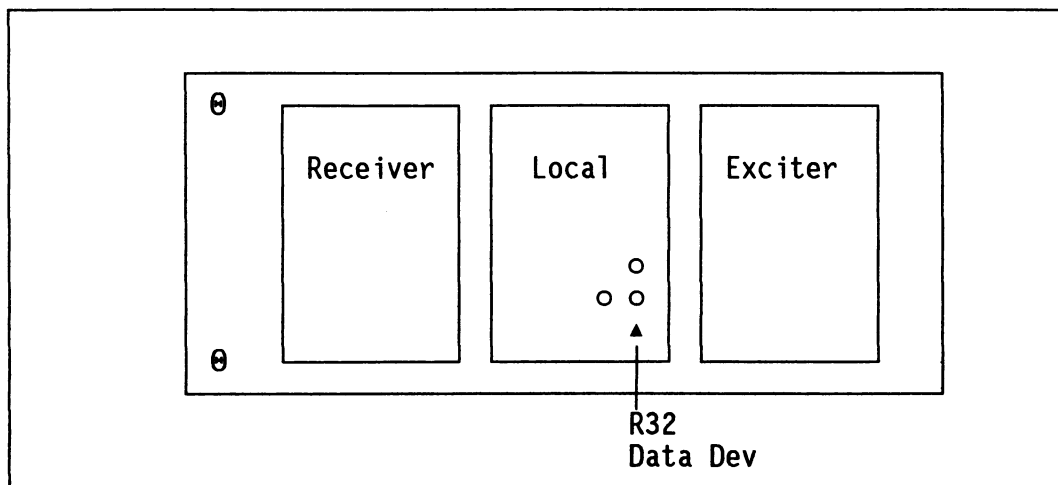

Figure 4-23. Uniden MRS802 Internal Sub-Chassis
- [] 5. Turn the DATA pot R32 on the Local Oscillator about 1/4 turn clockwise to get more adjustment range on the LTR transmit data deviation. See Figure 4-23.